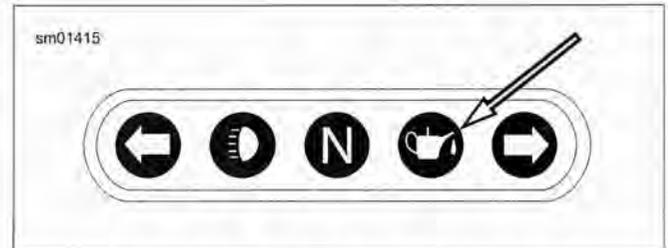

Figure 1-8. Oil Pressure Indicator Lamp
3. See Figure 1-8. Start engine. Verify that oil pressure signal lamp turns off when engine speed is 1000 rpm or above. Turn engine off.